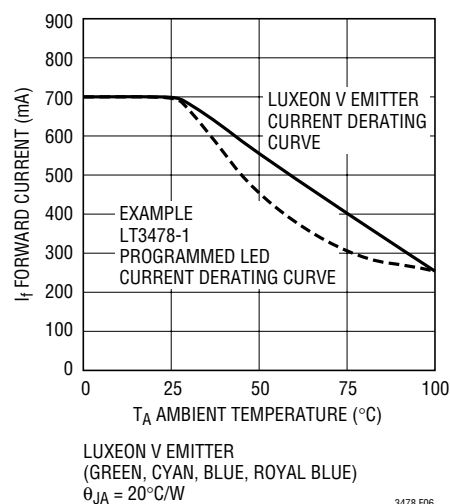
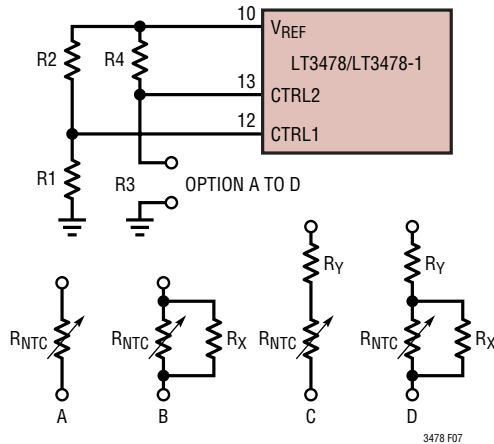
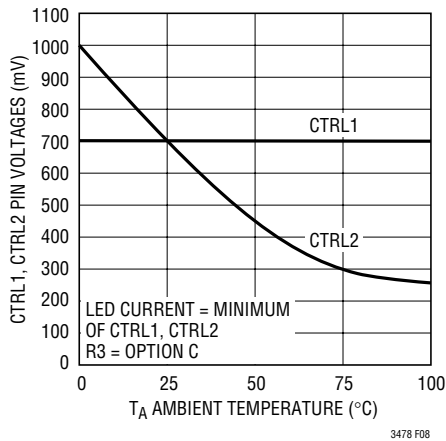

Figure 6. LED Current Derating Curve vs Ambient Temperature
Figure 7. Programming LED Current Derating Curve vs Temperature (R_{NTC} Located on LEDs PCB)
Figure 8. CTRL1, 2 Programmed Voltages vs Temperature
maximum allowed LED current versus temperature to warn against exceeding this current limit and damaging the LED (Figure 6).
Without the ability to back off LED current as temperature increases, many LED drivers are limited to driving the LED(s) at only 50% or less of their maximum rated currents. This limitation requires more LEDs to obtain the intended brightness for the application. The LT3478/LT3478-1 allow the output LED(s) to be programmed for maximum allowable current while still protecting the LED(s) from excessive currents at high temperature. This is achieved by programming a voltage at the CTRL2 pin with a negative temperature coefficient using a resistor divider with temperature dependent resistance (Figures 7 and 8). CTRL2 voltage is programmed higher than CTRL1 voltage. This allows initial LED current to be defined by CTRL1. As temperature increases, CTRL2 voltage will fall below CTRL1 voltage causing LED currents to be controlled by CTRL2 pin voltage. The choice of resistor ratios and use of temperature dependent resistance in the divider for the CTRL2 pin will define the LED current curve breakpoint and slope versus temperature (Figure 8).
CTRL2 to achieve the desired CTRL2 curve vs temperature. The current derating curve shown in Figure 6 uses the resistor network shown in option C of Figure 7.
If calculation of CTRL2 voltage at various temperatures gives a downward slope that is too strong, alternative resistor networks can be chosen (B, C, D in Figure 7) which use temperature independent resistance to reduce the effects of the NTC resistor over temperature.
The following example uses hand calculations to derive the resistor values required for CTRL1 and CTRL2 pin voltages to achieve a given LED current derating curve. The resistor values obtained using the Murata simulation tool are also provided and were used to create the derating curve shown in Figure 6. The simulation tool illustrates the non-linear nature of the NTC resistor temperature coefficient at temperatures exceeding 50°C ambient. In addition, the resistor divider technique using an NTC resistor to derive CTRL2 voltage inherently has a flattening characteristic (reduced downward slope) at higher temperatures. To avoid LED current exceeding a maximum
Step 2: Choose resistor network option A (Figure 7) and CTRL2 = CTRL1 for 25°C breakpoint
Step 4: Calculate the resistor value required for R_Y in resistor network option (c) (Figure 7) to provide an I_{LED} slope of $-200\text{mA}/25^\circ\text{C}$ between 25°C and 50°C ambient temperature.
Using the Murata simulation tool for the resistor network and values in the above example shows a CTRL2 voltage curve that flattens out as temperatures approach 100°C ambient. The final resistor network chosen for the derating curve in Figure 6 used option C network with $R4 = 19.3\text{k}$, $R_{NTC} = 22\text{k}$ (NCP15XW223J0SRC) and $R_Y = 3.01\text{k}$. Although the CTRL2 downward slope is greater than $-200\text{mA}/25^{\circ}\text{C}$ initially, the slope is required to avoid exceeding maximum allowed LED currents at high ambient temperatures (see Figure 6).